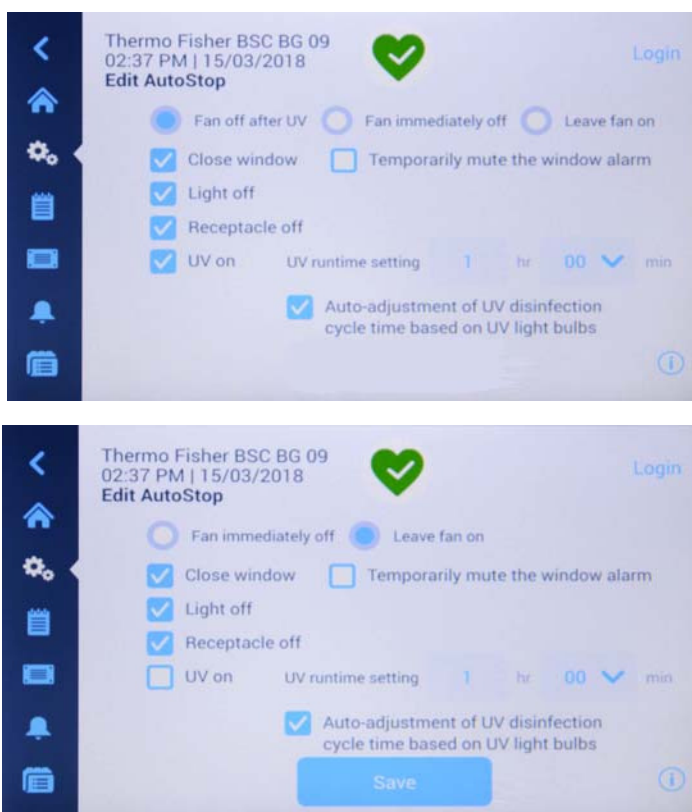

Figure 79 Programs: Edit AutoStop Screen
Doing so will open up the Edit AutoStop screen shown in Figure 79 below. By default, the **Edit AutoStop** screen comes up with the **Fan off after UV** option selected, the Temporarily mute the window alarm checkbox deselected, and all remaining checkboxes selected (top image in Figure 79).
- When you are done choosing **AutoStop** options, tap the **Save** button (bottom image in Figure 79).